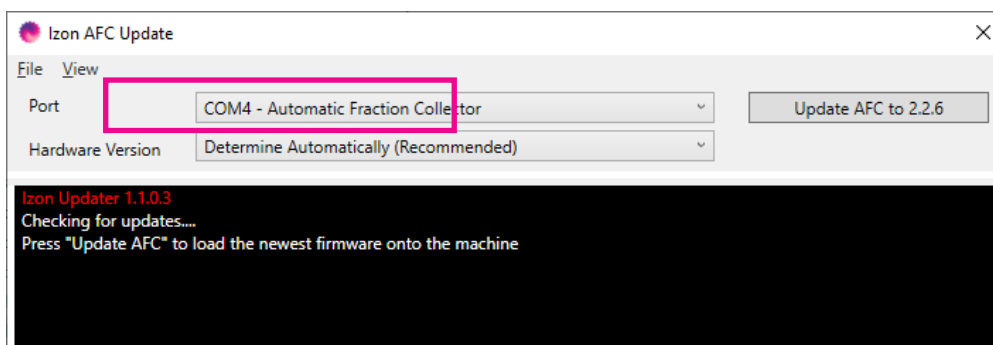

Figure 20: The Izon AFC Update software with the AFC correctly selected in the “Port” dropdown box.
6. Ensure that Automatic Fraction Collector is shown in the Device box, as shown in Figure 20.